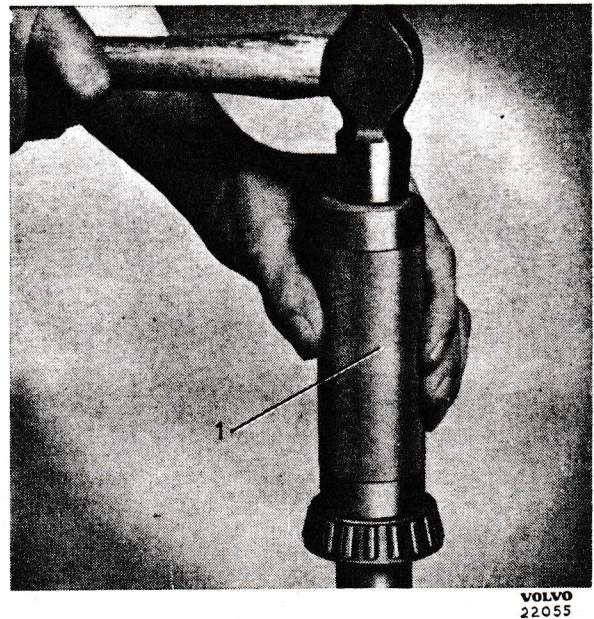

Fig. 29. Fitting the axle shaft bearings.
2. Drive the bearings (15) onto the axle shafts if they have been removed. Use tool SVO 1805, see Fig. 29.